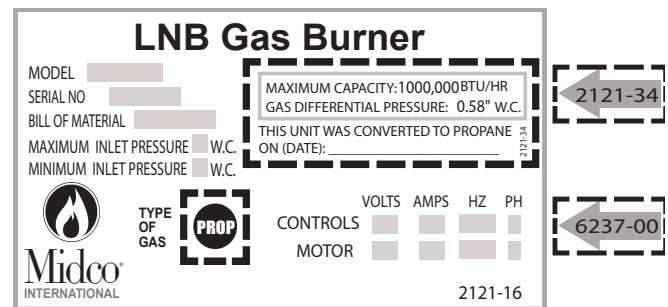

Figure 2 - Kit Label Placement - Covering Specs and Gas Type
5. Fill out tags/labels provided in conversion kit and attach/apply to burner and control box as shown in Figure 2.